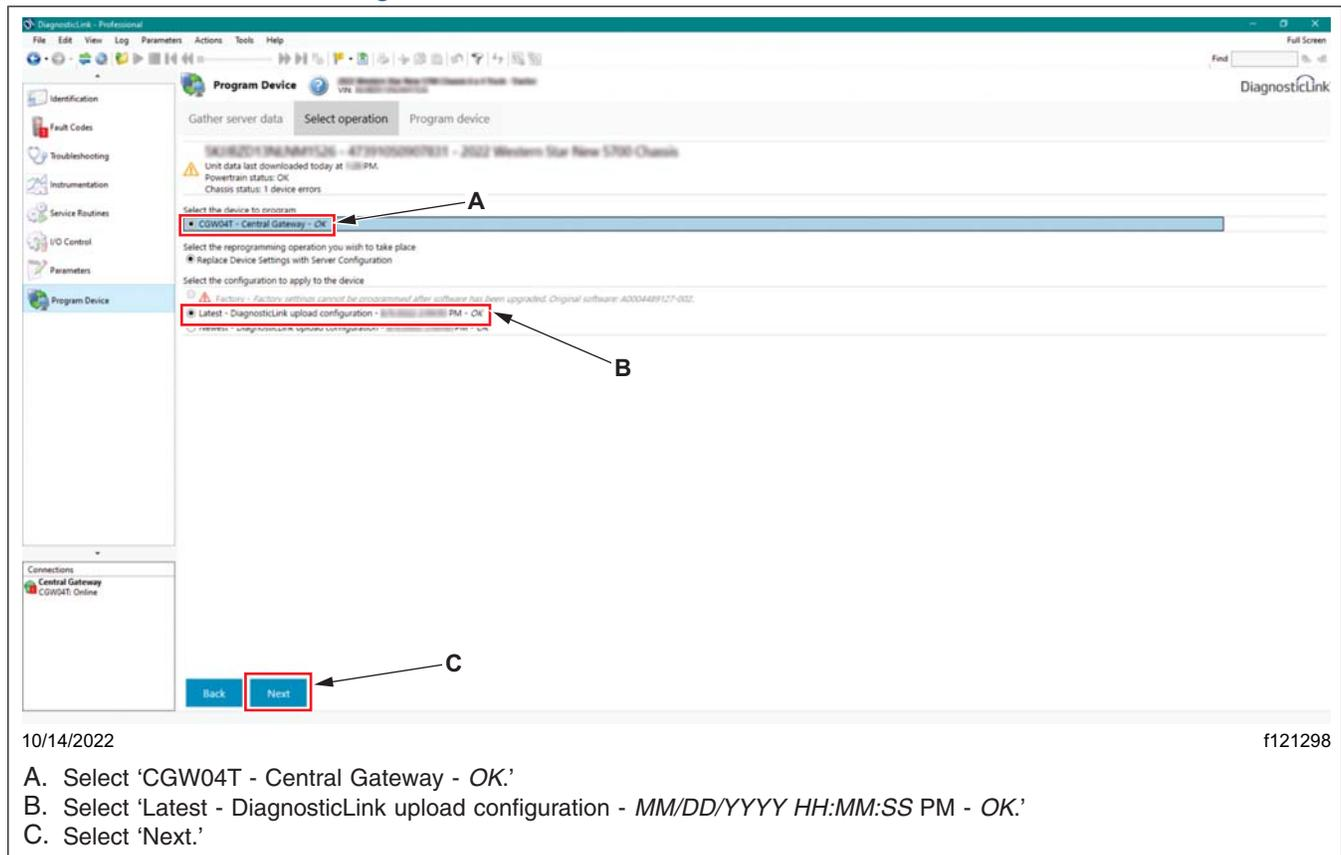

Fig. 16, Selecting the Device Configuration
- 21.1 Select 'CGW04T - Central Gateway - OK' as the device to program. See Fig. 16.
- 21.2 Select 'Latest - DiagnosticLink upload configuration - MM/DD/YYYY HH:MM:SS PM - OK' as the configuration to apply to the device. See Fig. 16.
- 21.3 Select 'Next.' See Fig. 16.